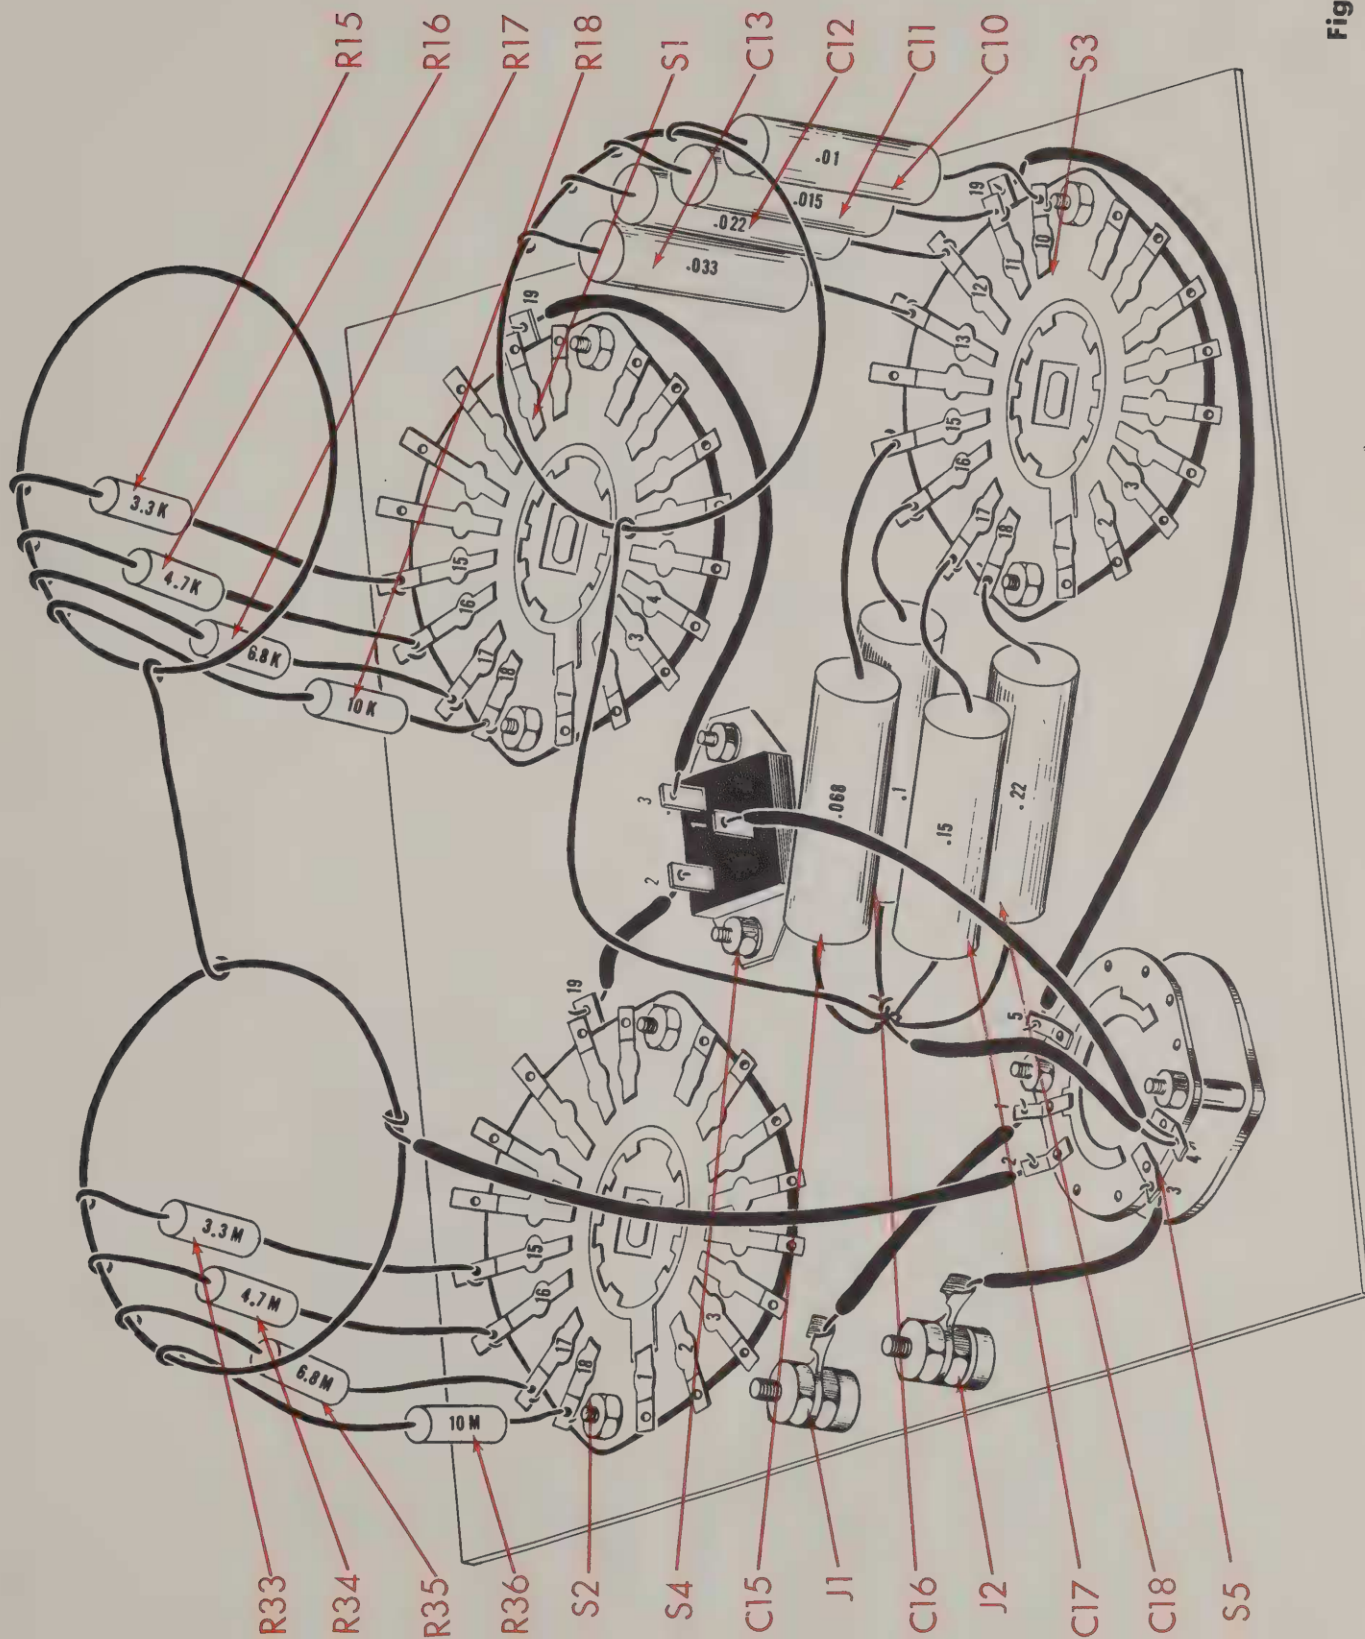

Fig. 3
1. () Fig. 3. All capacitors are to be mounted on S3. On the following capacitors, cut all leads to 3/4". Solder one lead to the contacts indicated below. Leave a 1/2" lead length between the contact and the body of the capacitor.
2. () Fig. 3. On the following capacitors, cut all leads to 1/2". Solder one end to the contact indicated below. Leave a 1/4" lead length between the contact and the body of the capacitor.
3. () Fig. 3. On the following capacitors, cut one lead to 1/2" and the other lead to 3/4". Solder the 3/4" lead from one end of each capacitor to the contact indicated below. Leave a 1/2" lead length between the contact and the body of the capacitor.
4. () Fig. 3. Cut both leads on a .047 mfd (yellow, violet, orange, silver, blue) capacitor, C14, to 3/4". Cover one lead with a 1/2" piece of spaghetti and connect to S3-14 (S).
5. () Fig. 3. Cut one lead on each of the remaining four capacitors to 1". Cut the remaining lead on each of the capacitors to 1 1/2". Cover each of the longer leads with a 1 1/4" piece of spaghetti and connect to the switch contact indicated below.
6. () Fig. 3. Wrap unsoldered leads of all resistors (soldered to S1) around one of the previously prepared rings as shown. Solder all leads from the 18 resistors to this ring. The ring should be suspended in the air by the resistors parallel to the switch.
7. () Fig. 3. Similar to the above, wrap unsoldered leads of all resistors (soldered to S2) around a second one of the previously prepared rings as shown. Solder all leads from the 18 resistors to this ring. The ring should be suspended in the air by the resistors parallel to the switch.
8. () Fig. 3. Similar to the above, wrap unsoldered leads of capacitors, C1 through C14 (soldered to S3) around the third of the previously prepared rings as shown. Solder the leads of these capacitors to the ring. The ring should be suspended in the air by the capacitors parallel to the switch. The height of each ring should be no greater than 2-1/8" above the panel.
9. () Fig. 3. Twist the lead of the remaining four capacitors, C15 through C18, together as shown. Around these leads, twist one end of a 5" piece of bare wire and a 2 1/2" piece of insulated wire. Solder all these leads together. Be careful that solder should flow over all of these wires at the twisted connection. Connect the remaining end of the insulated wire to S5-4(C) and the remaining end of the bare wire to the ring (S) over the capacitor switch S3.
10. () Fig. 3. Connect a 4" piece of wire from S5-4 (S) to S4-1 (S).
11. () Fig. 3. Connect an 8" piece of wire from S5-5 (S) to lugs (S) on front side of S3.
12. () Fig. 3. Connect a 6" piece of wire from S4-3 (S) to lug (S) on front side of S1.
13. () Fig. 3. Connect a 2" piece of wire from S4-2 (S) to lug (S) on front side of S2.
14. () Fig. 3. Connect a 2" piece of wire from S5-1 (S) to jack J1 (S).
15. () Fig. 3. Connect a 2" piece of wire from S5-3 (S) to jack J2 (S).
16. () Fig. 3. Connect a 2" piece of bare wire from the ring (S) suspended above S1 to the ring (S) suspended above S2.
17. () Fig. 3. Connect a 2 1/2" piece of wire from S5-2 (S) to ring (S) suspended above S2.
18. () Fig. 3. Mount the panel in the cabinet. Use four #4 screws.